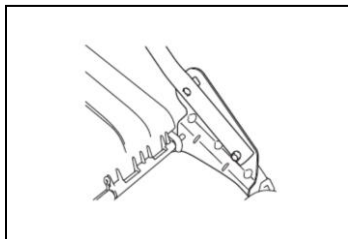

Fig. 2A
1. Use the bolt, washer and locking knob to fix the lower handlebars into the unit body. (Fig. 2A/2B)